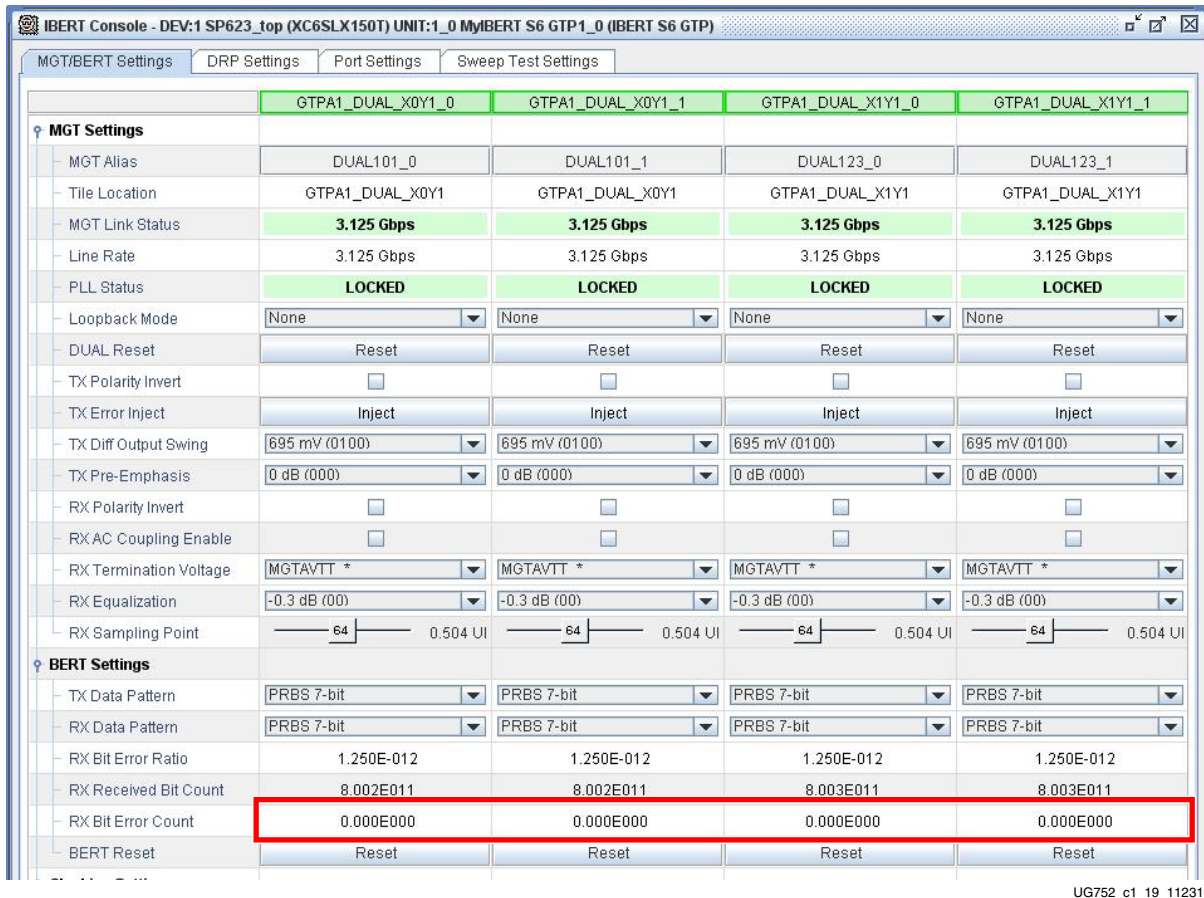

Figure 1-16: RX Bit Error Count
- Note the RX Bit Error Count as shown in Figure 1-16. For any channel that doesn't automatically reset to 0.000E000, click the Reset button immediately below the RX Bit Error Count for that particular channel.